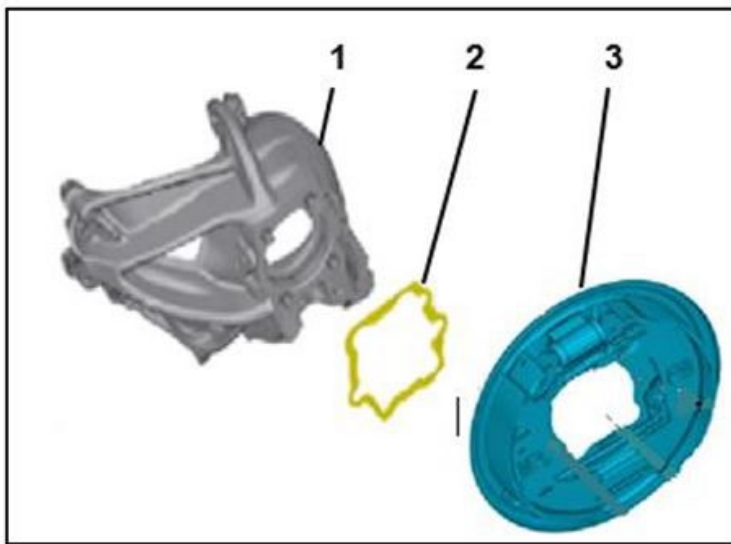

Figure 1: Gasket (2) between brake carrier (3) and wheel bearing housing (1).
3. Install gasket between brake carrier and rear (left/right) wheel bearing housing (item 2, Figure 1).